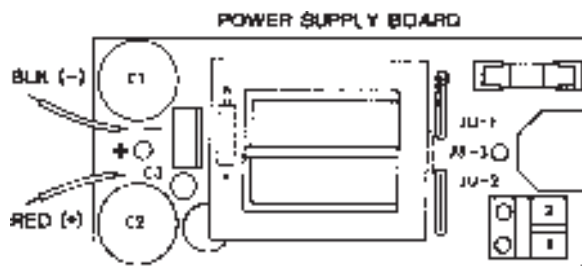

**Fig. 8**
4. Replace the power supply cover and adjust the wires for service loop. (See Fig.8).
4. Install a black (-) wire from the power supply assembly to Terminal 1 on the short terminal block on the gauge printed circuit board. Install a red (+) wire from the power supply board to Terminal 2 on the gauge printed circuit board. (Figs. 8 & 9)
6. Connect the 115 or 230 VAC power supply leads to Terminal 1 and 2 on the terminal block at the end of the power supply printed circuit board and feed these through the strain relief. (Figs. 8 & 9)
7. Replace the power supply cover, adjust the wire for service loop. (Fig. 8)